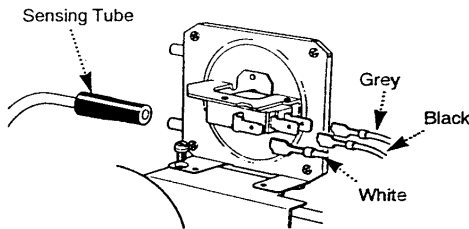

Fig. 112
10.9 Pressure Switch (Fig 112)